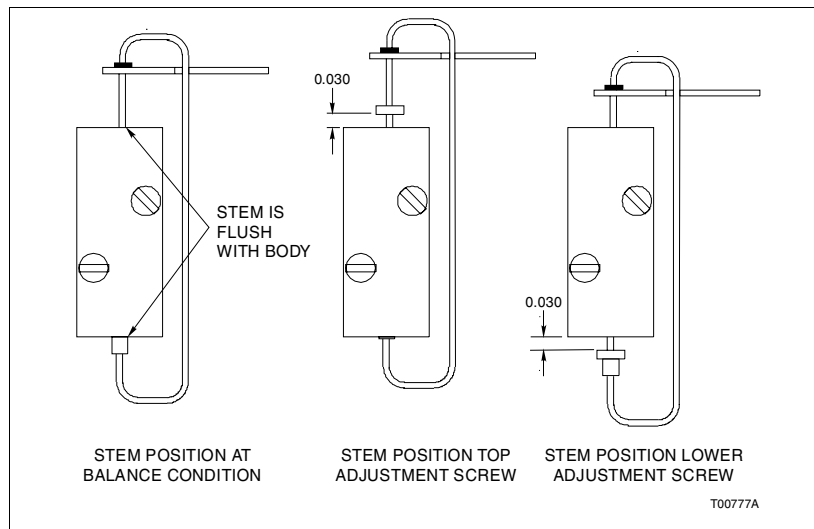
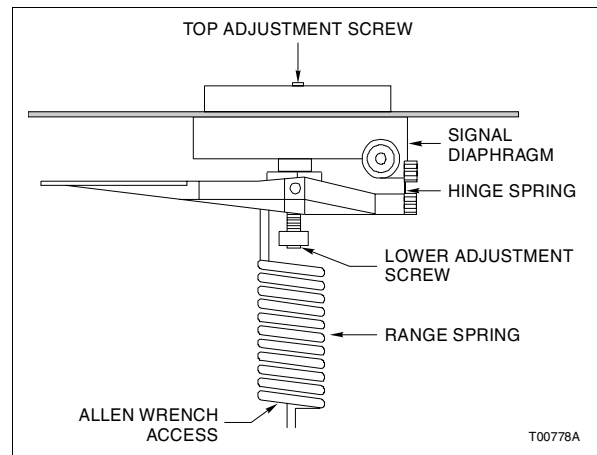

Figure 8-3. Pilot Valve Measurement for Maximum Speed
Figure 8-4. Stroke Adjustment Screws
When the valve stem is in the balance position, as shown in Figure 8-3, the stem is flush with both ends of the valve body. There are two adjustment screws to adjust. Use the following procedure to check and adjust the travel of the valve stem:
4. Use the long $\frac{3}{32}$ -inch Allen wrench, adjust the top adjustment screw (Fig. 8-4) appropriately until the measurement matches the
value shown in Figure 8-3. Figure 8-3 also shows the way the measurement is taken.
6. Use the long $\frac{3}{32}$ -inch Allen wrench to adjust the lower stroke adjustment screw (Fig. 8-4). Adjust the screw until the measurement matches the value shown in Figure 8-3.